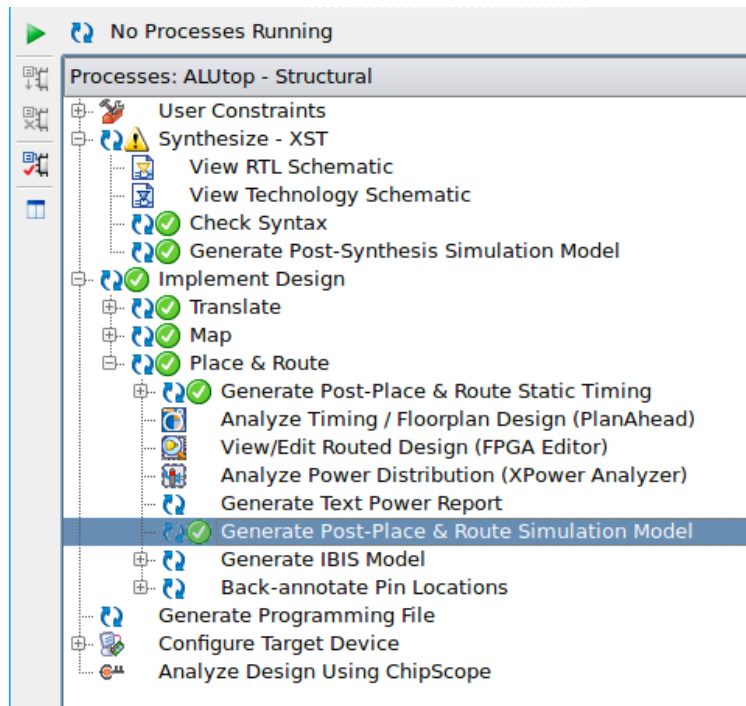

Figure 8: Place and Route
- (b) Double click the “Generate Post-Place & Route Static Timing” under the “Place & Route” option in the Processes window under the Implement Design option. See Figure 8.